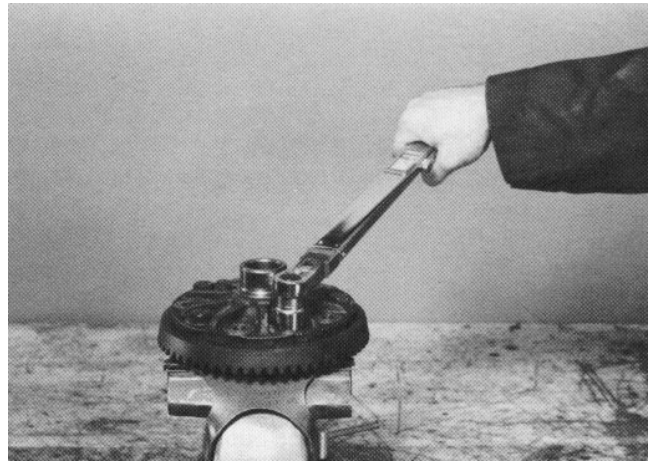

Figure 50
16. Put the ring gear onto the differential case and start the new capscrews into the gear with your fingers. Tighten the screws, alternating back and forth across the gear to allow the gear to be pulled evenly into place. Tighten the cap screws to a torque of 45 - 65 ft-lb (6.2 - 9.0 KgM) (Fig. 50).